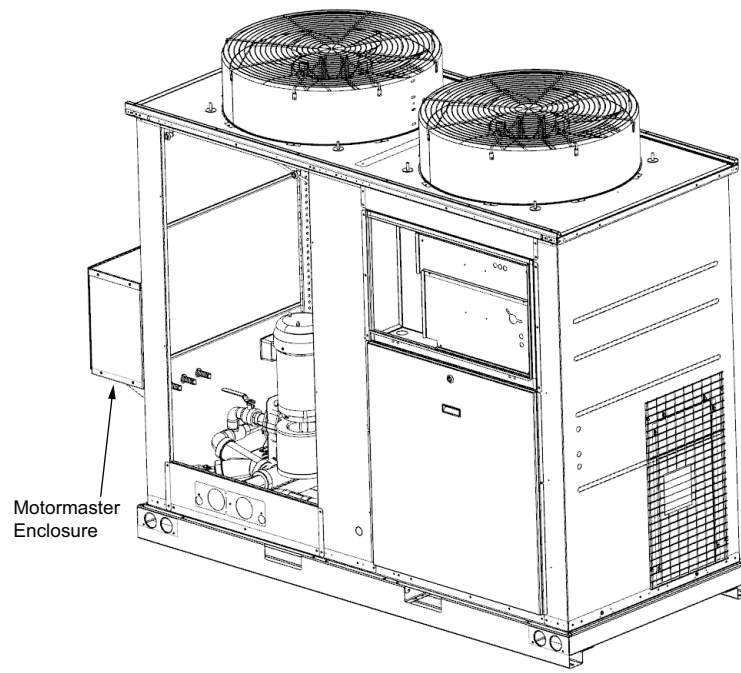
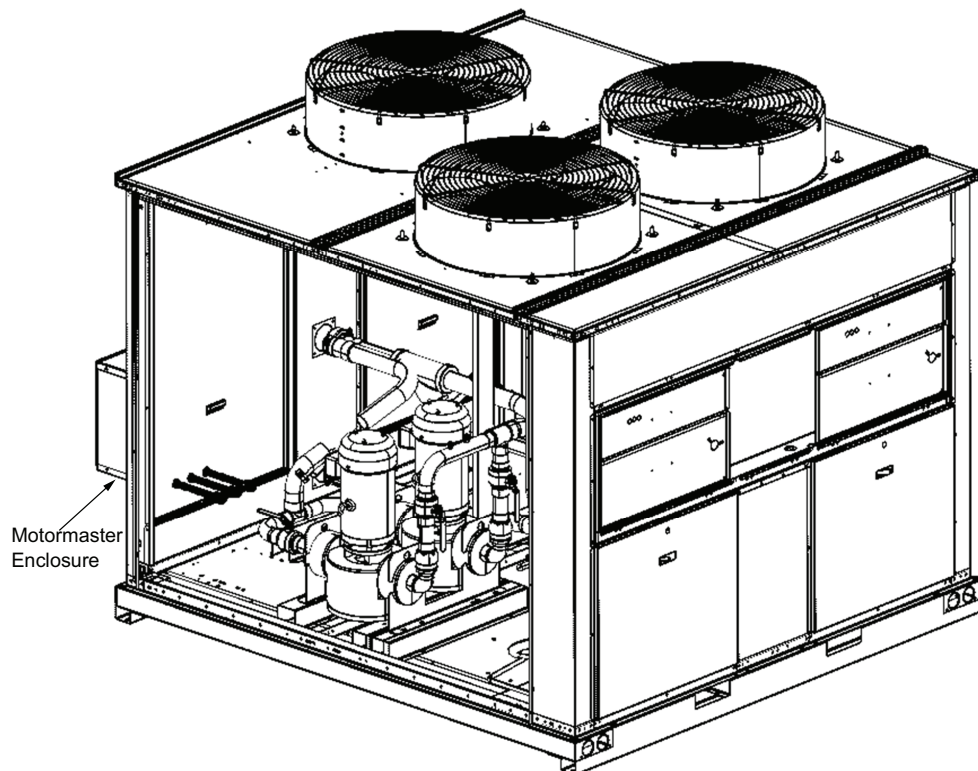

Fig. 28 — Motormaster Location — 30RAP 010-030, 38AP 025-030 and 09DP 018-030 Units (30RAP 030 Shown)
Fig. 31 — Motormaster Location — 30RAP 035-060, 38AP 035-060 and 09DP 035-060 Units (30RAP 040 Shown)
5. Remove the straight connectors from the ends of the conduit leaving the MM enclosure. Route the conduit through the holes in the corner post. See Fig. 28 for 09DP 018-030 and Fig. 31 for 09DP 035-060.